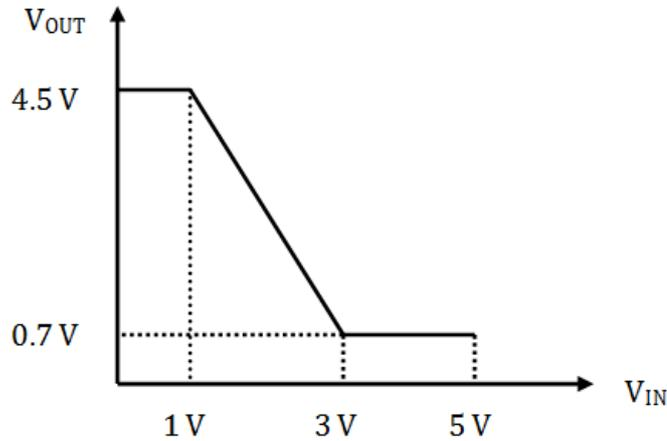

Fig. 1: The VTC of the inverter
3) Find V_{OH} , V_{OL} , V_{IL} , V_{IH} , **Noise Margin High** and **Noise Margin Low** of the inverter which has the VTC shown in Fig. 1.